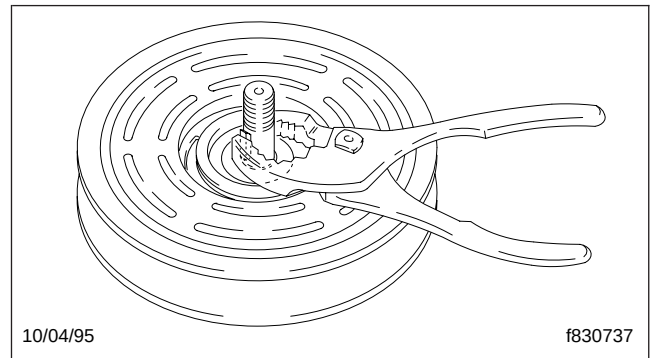

Fig. 9, Installing the Shaft Key
- 3.1 Using pliers, install the shaft key. See Fig. 9.